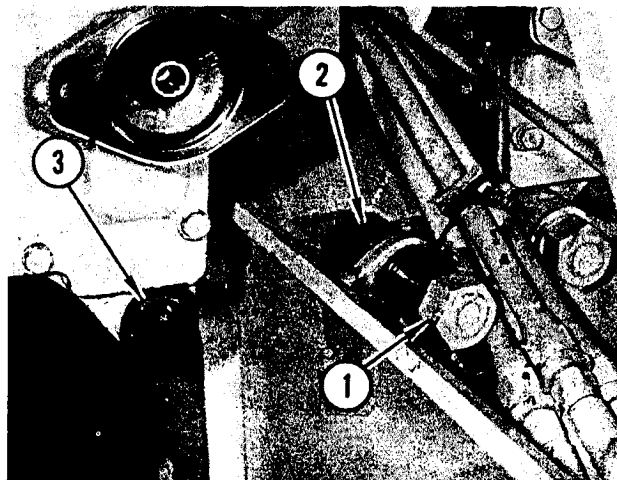

FIGURE 9. TORQUE BOLT INSTALLATION
4. Refer to Figure 9. Insert torque bolt (1) through torque boss on main frame just far enough to install spacer (2). Swing blade lift assem-